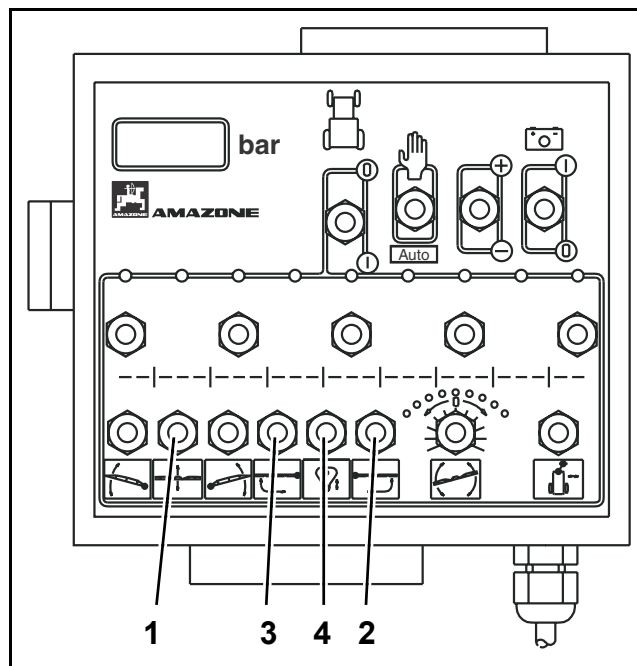

Fig. 81
- Lift the boom into a middle height by pressing key (Fig. 81/1).
- **By pressing key (Fig. 81/4) lock the swing compensation in transport position.**
- Keep the key (Fig. 81/3) in position "folding in" until the individual sections of the left hand boom have been completely folded in.
- Keep the key (Fig. 81/2) in position "folding in" until the individual sections of the left hand boom have been completely folded in.